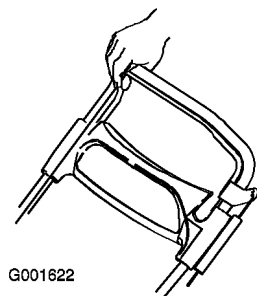

Figure 23
1. Squeeze the control bar against the right side of the handle (Figure 23).